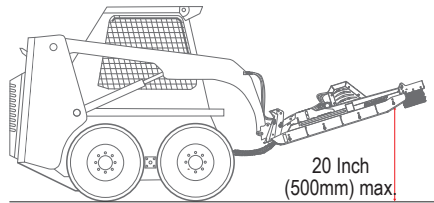

Figure 2
- Never lift the front of the brush cutter more than 20" (500mm) off the ground whilst blades are spinning or to a height where visibility is obstructed, whichever is lower. (Figure 2 & 3)